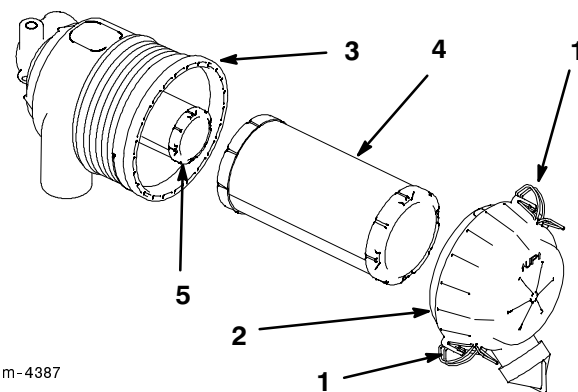

Figure 56
3. Release the latches on the air cleaner and pull the air cleaner cover off of the air cleaner body (Fig. 56).
5. Gently slide the primary filter out of the air cleaner body (Fig. 56). Avoid knocking the filter into the side of the body. Do not remove the safety filter, unless you intend to replace it as well.
2. If the safety filter is being replaced, carefully slide it into the filter body (Fig. 56).
3. Carefully slide the primary filter over the safety filter (Fig. 56). Ensure that it is fully seated by pushing on the outer rim of the filter while installing it.
4. Install the air cleaner cover with the side indicated as UP facing up and secure the latches (Fig. 56).